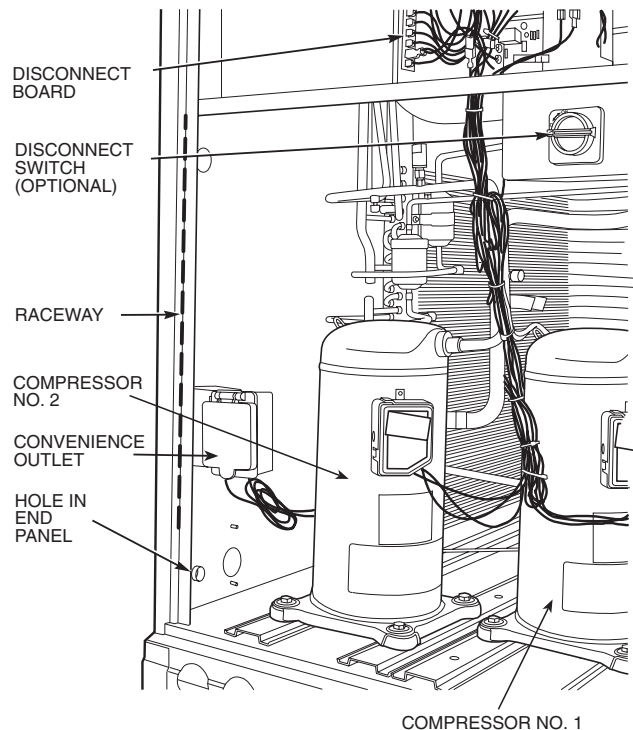

Fig. 9 — Typical Field Control Wiring Raceway
3. Feed wire through the raceway built into the corner post to the 24-v barrier located on the left side of the control box. See Fig. 9. The raceway provides the UL required clearance between the high-voltage and low-voltage wiring.